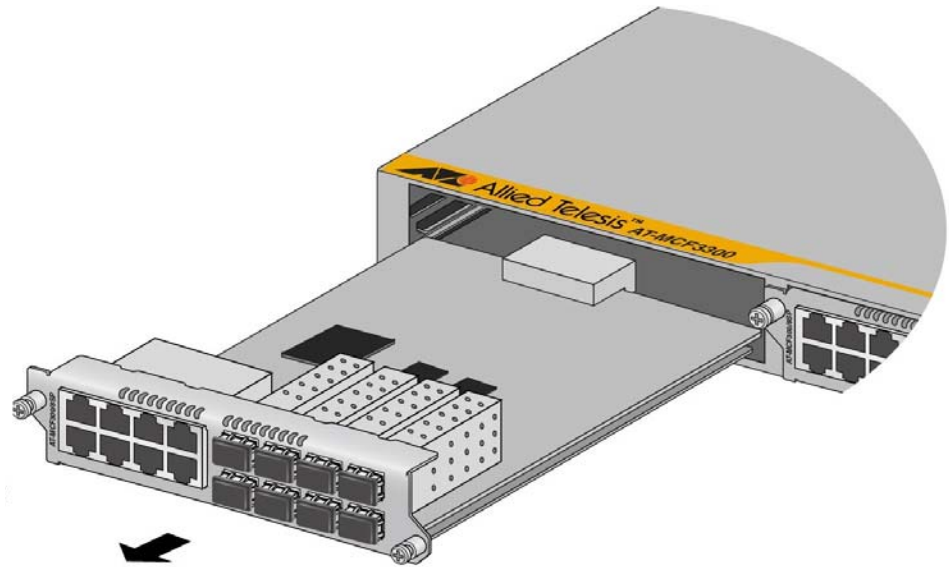

Figure 64. Sliding the Media Converter Module from the Chassis
5. Slide the module from the unit. Refer to Figure 64 on page 107.